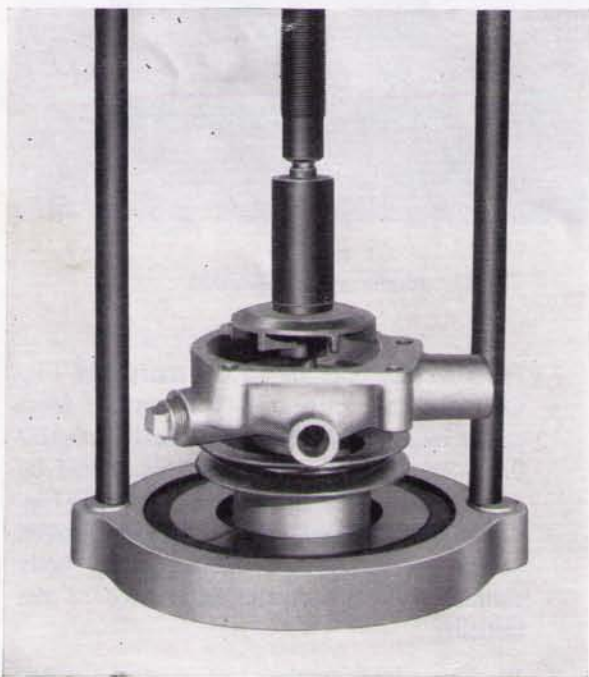
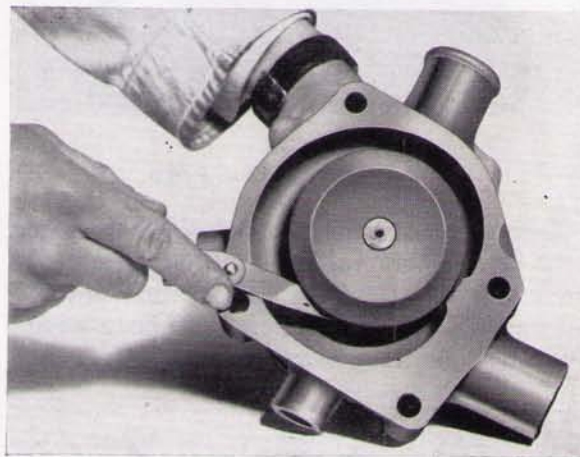

Fig. Q.9.
Fig. Q.10.
7. Press the impeller on to the shaft (See Fig. Q.9) until the clearance between the front of the impeller blades and the body is 0.015/0.025 in. (0.381/0.635 mm). This should be checked with a feeler gauge as shown in Fig. Q.10. At this point, a straight edge placed across the back face of the pump body should also contact the back face of the impeller.